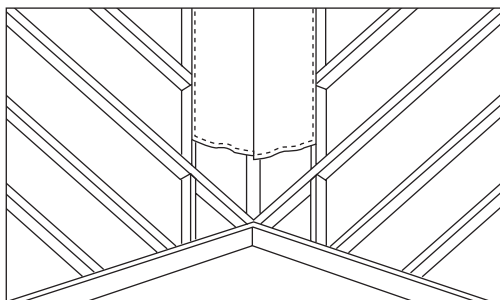

Fig 2 - Butt joint valley boards over supporting rafters
- 2 Continuous overlaid boards should be minimum of 6mm thick plywood and only butt jointed over a supporting rafter (Fig 2).